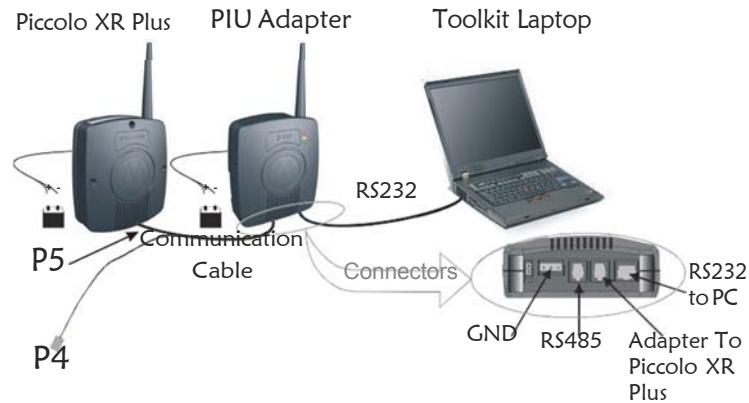

Figure 20
1. Connect the PIU adapter RS232 port to the computer with the FTM6597B cable (see Figure 20).